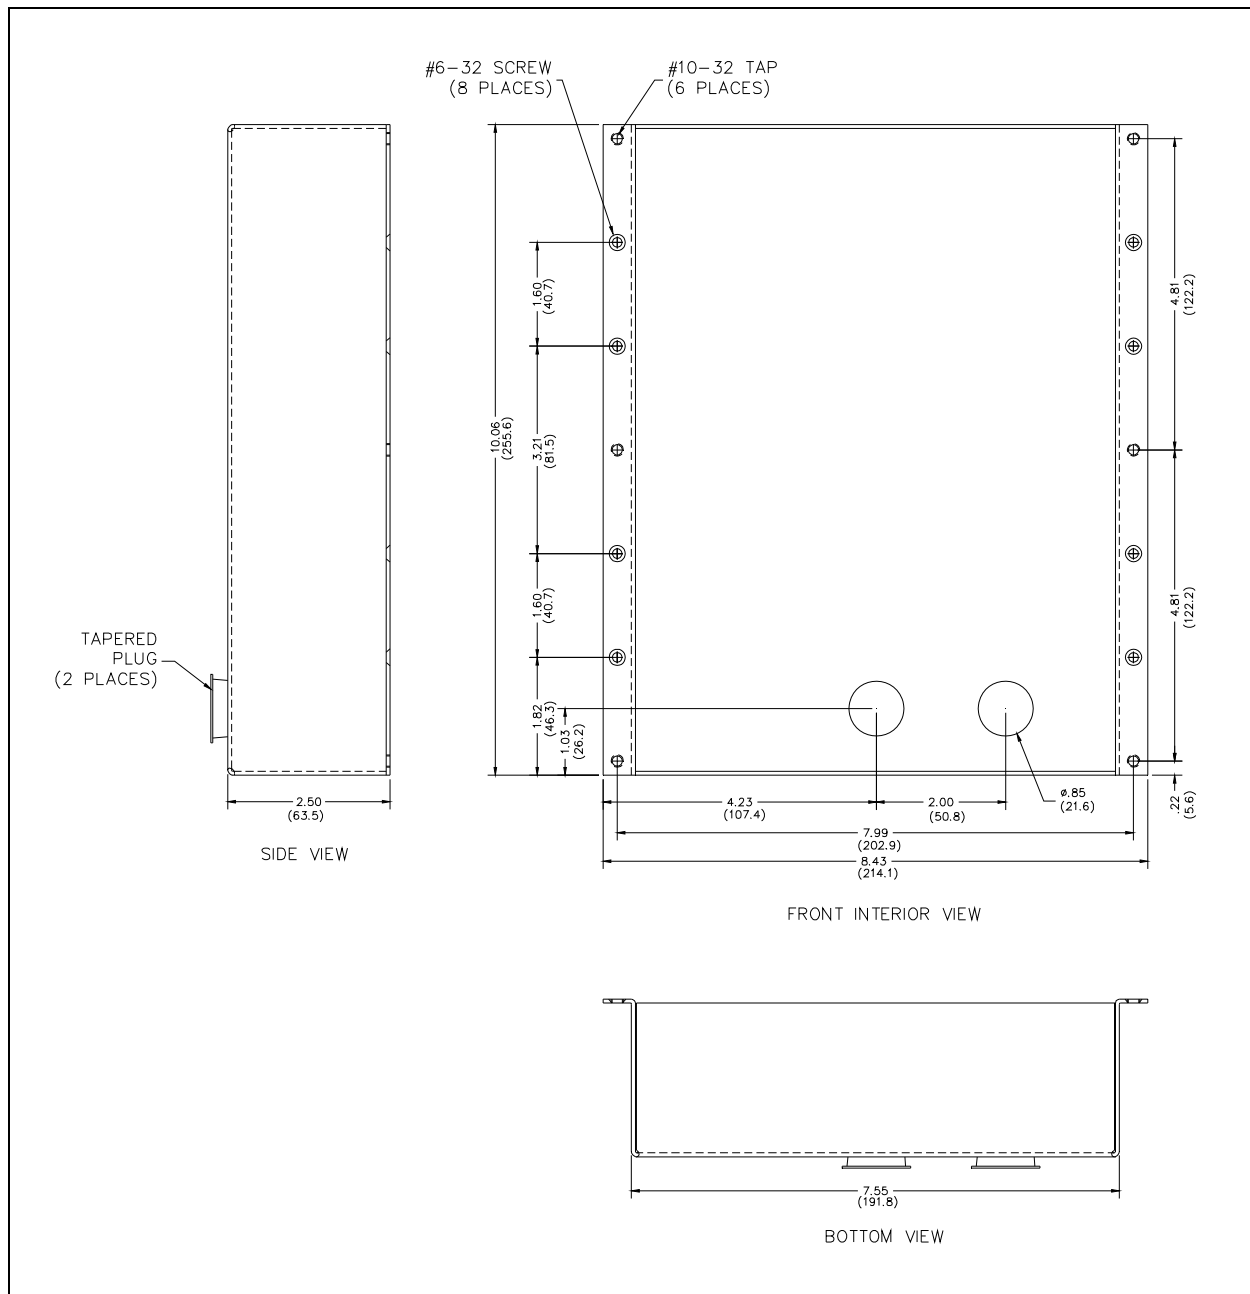

Figure 15. Flush-Mount Telephone Back Box Mounting Detail
1. Use the supplied back box to mount the Model 397-810A, 397-811A, 398-811A and 398-812A VoIP WiFi telephones in flush-mount applications or in a GAI-Tronics Model 234 Series Communication Station. Mount the back box to the structure using the appropriate hardware (see Figure 15).